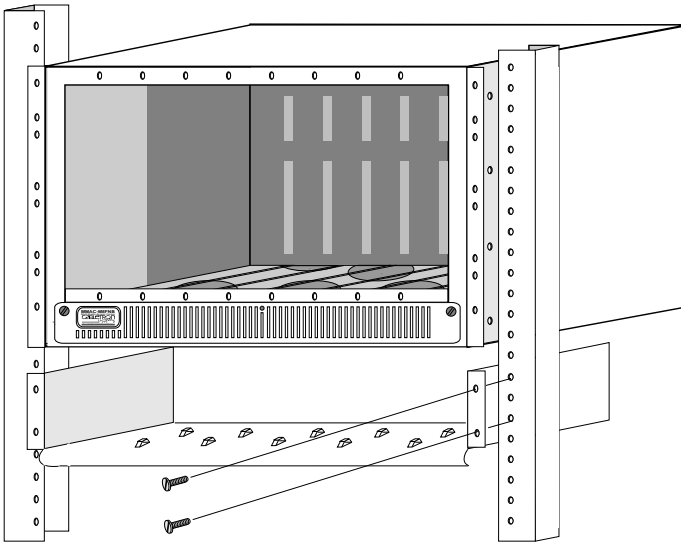

Figure 3-2. Cable Tie Tray Installation
1. Slide the cable tie tray (Figure 3-2) into the rack.